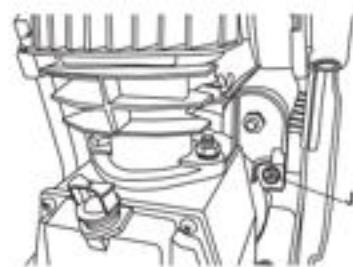

FIGURE 6
MOTOR THERMAL OVERLOAD PROTECTOR (RESET (J) FIG. 6).
MOTOR THERMAL OVERLOAD PROTECTOR (RESET (J) FIG. 6). The electric motor has an automatic thermal overload protector. If the motor overheats for any reason, the thermal overload protector will shut off the motor. The motor must be allowed to cool before restarting. Press the reset button (J) after 15 minutes.